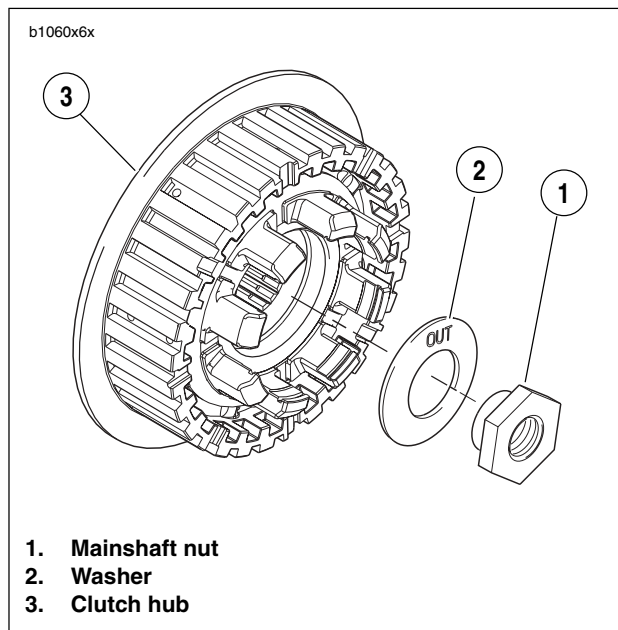

Figure 6-17. Mainshaft Nut and Washer
5. See Figure 6-17. Remove mainshaft nut and washer.